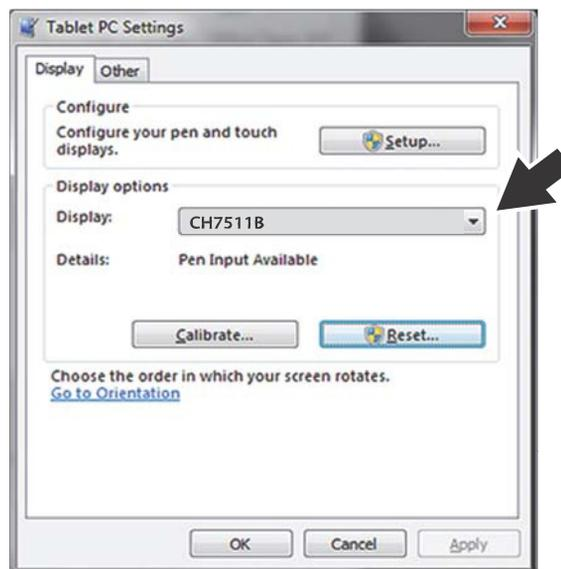

Figure 17-3 Tablet PC Settings window
The Tablet PC Setting window is displayed (Figure 17-3).
2. Select the display to be calibrated from the dropdown list. The default diagnostic tool display is "CH7511B" (Figure 17-3).